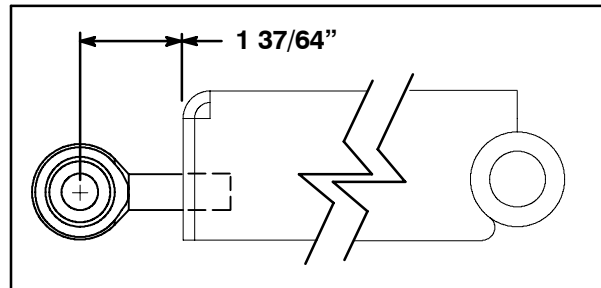

FIG. 7
9. Measure the length of the rod ends on both the right and left lift assemblies. Adjust to length shown in Fig. 7.